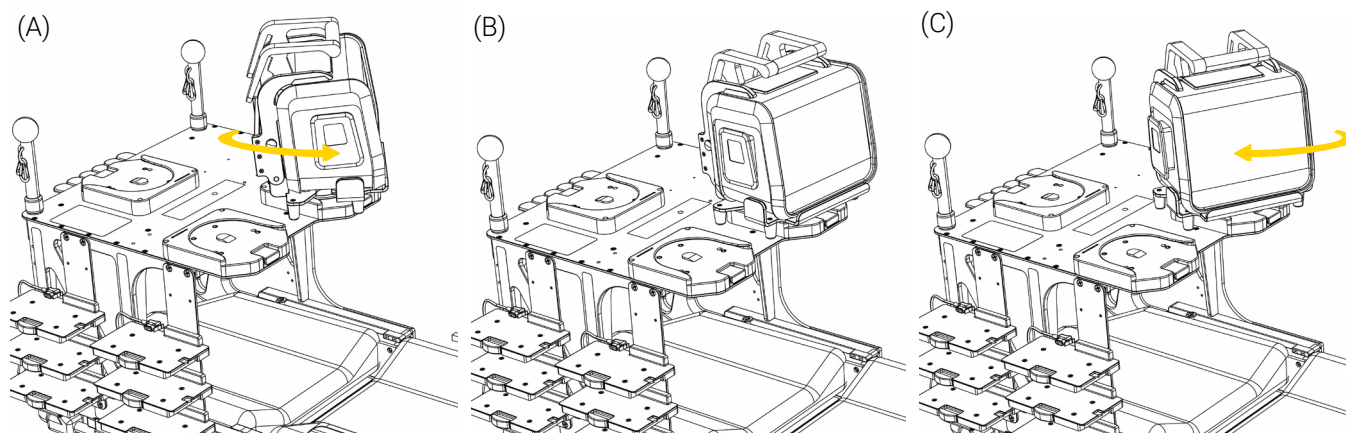

Figure 12: Rotating the medical device
5. Turn the medical device up to 360° clockwise or counterclockwise (Figure 12), to the desired position.